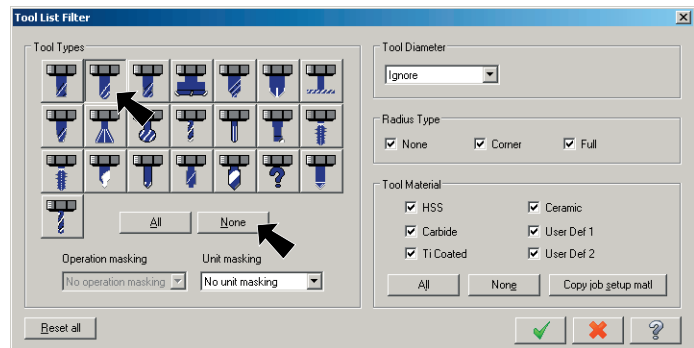

Fig. 12
Step 14. Click **None** button under **Tool Types**, **Fig. 12**.
Step 15. Click **Endmill2 Sphere** button (second button top row), **Fig. 12** and click OK.